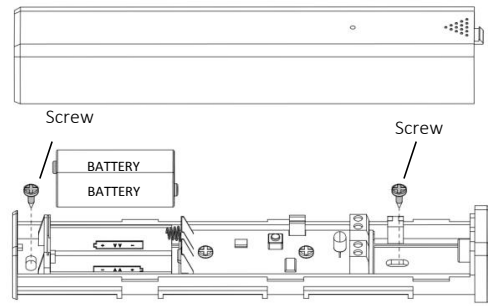

Fig.3
- For Rcontact TF Part 1: Open the cover, put the battery inside, then use the screws to fixed it on the door. (Fig.3)